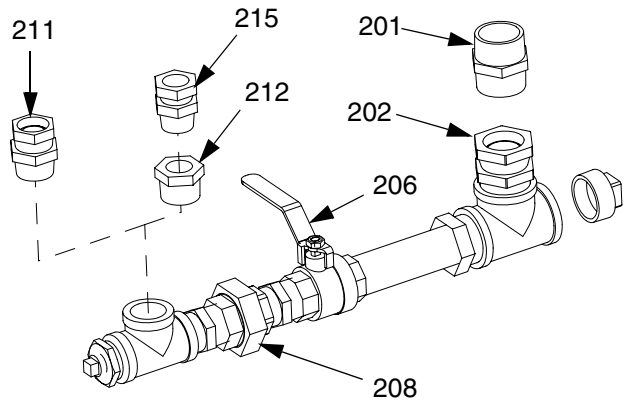

FIG. 29: Fluid Outlet Assembly
3. Disconnect swivel fitting (202). See FIG. 29.
4. If a transfer pump (H) or agitator (J) is mounted to the hopper:
5. Remove bolts (107) and washers (110) from under mounting bracket (101).